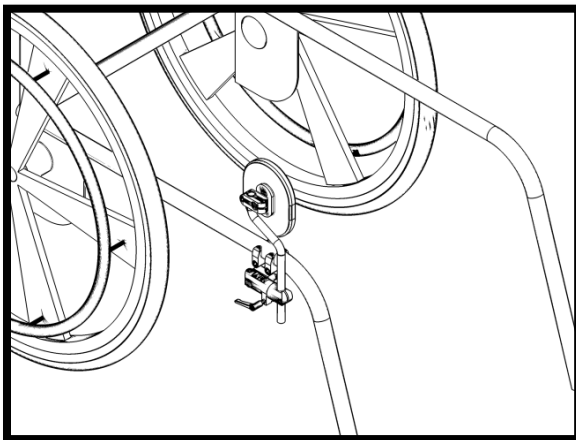
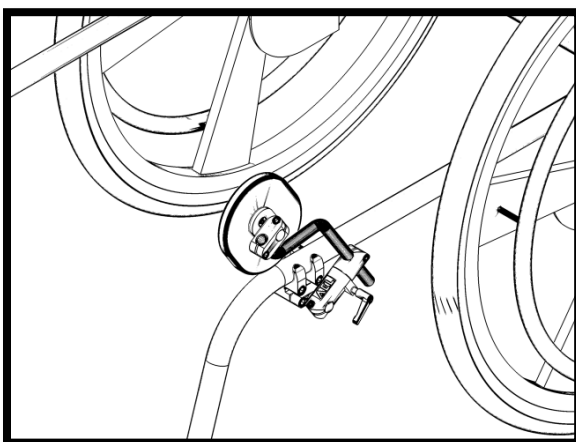

Figure 1.5
Figure 1.6
***Note: The POSAinc 360 Swing-Away Knee Adductor is offered specifically as a "right-" and "left-" side device, the installation technician can option to mount a right side device onto the left side of the wheelchair and a left side assembly on the right. See Figure 1.6 for an illustration displaying this mounting option. The installation technician must ensure the release knob is facing away from the chair. Throughout the rest of this instruction manual the illustrations will depict a right side device mounted on the right side of a wheelchair.
The figures below show a POSAlinc 360 Swing-Away Knee Adductor correctly tube mounted to a wheelchair. Figure 1.5 shows a right side assembly mounted to the right side of a chair, while Figure 1.6 shows the option of mounting a right side assembly to the left side of the chair.